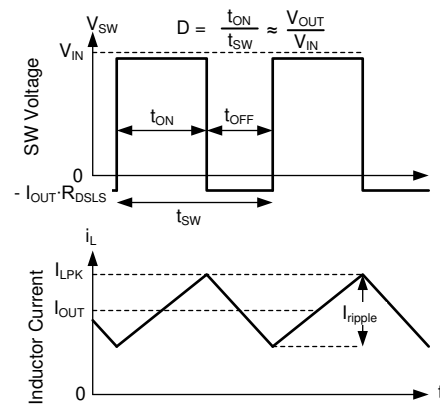

图 9-16. SW Voltage and Inductor Current Waveforms in Continuous Conduction Mode (CCM)
The following operating description of the LM61460-Q1 refers to # 9.2 and to the waveforms in 图 9-16. In CCM, the LM61460-Q1 supplies a regulated output voltage by turning on the internal high-side (HS) and low-side (LS) NMOS switches with varying duty cycle (D). During the HS switch on-time, the SW pin voltage, V_{SW} , swings up to approximately V_{IN} , and the inductor current, i_L , increases with a linear slope. The HS switch is turned off by the control logic. During the HS switch off-time, t_{OFF} , the LS switch is turned on. Inductor current discharges through the LS switch, which forces the V_{SW} to swing below ground by the voltage drop across the LS switch. The converter loop adjusts the duty cycle to maintain a constant output voltage. D is defined by the on-time of the HS switch over the switching period: